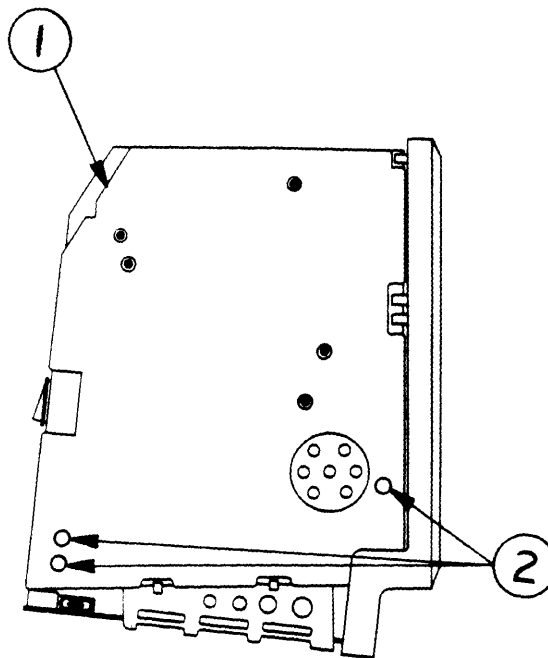

FIGURE 5
7. There are several versions of the insulating paper (Figure 5, #1). If there are no access holes for the three screws (Figure 5, #2), note how the paper is installed and then remove it.
8. Remove three screws and washers (Figure 5, #2), and lift up and pull out the power/sweep board.